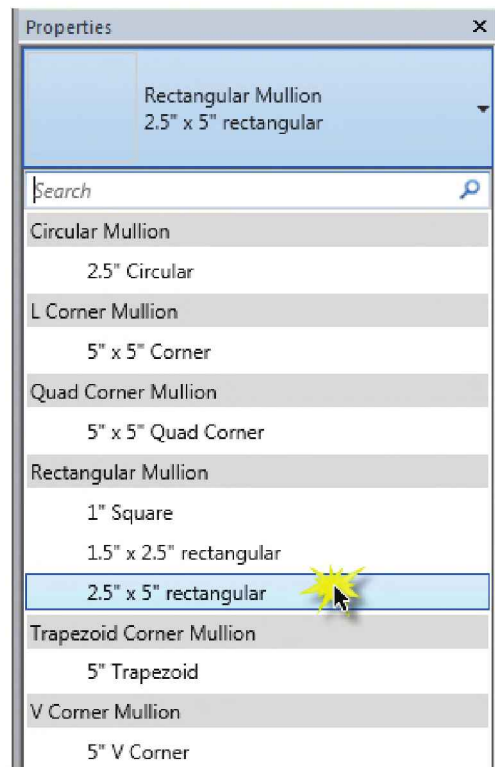

FIGURE 8-5.7B
14. Select *Rectangular Mullion: 2.5" x 5"* rectangular from the *Type Selector* (Figure 8-5.7B).
In this example, you will not place a corner mullion. This will be a butt-joint condition where the two panes of glass are held together with silicon in the corner. However, figure 8-5.7B shows corner mullions that can be added.